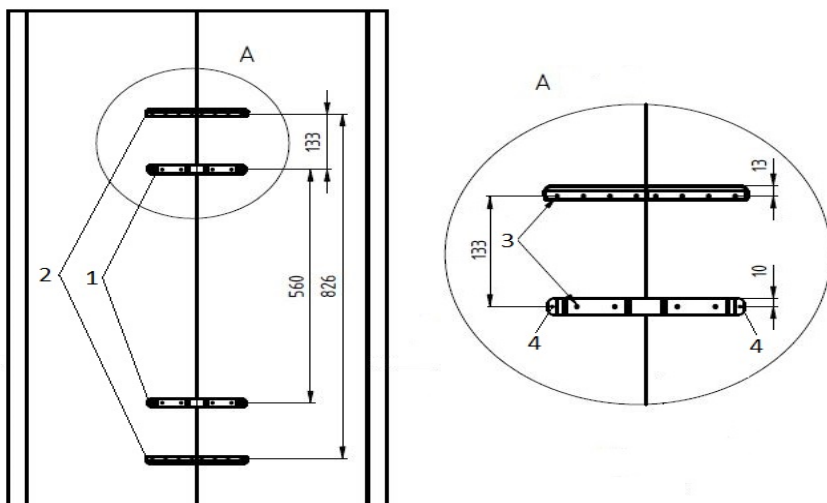

Fig. 3.3 Arrangement of mounting brackets and covers for corner installation of VitalSun heater.
1. Fasten the brackets to the wall with the mounting screws (pos. 3, Table 3.2) as shown in Fig. 3.3. Ensure that the brackets are level. Ensure that the weight of the heater does not rest solely on the wall panels.